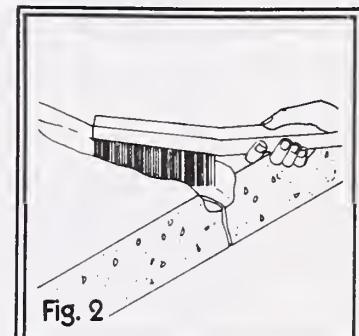

Fig. 2
3. Clean the concrete surface thoroughly with the wire brush (fig. 2).
7. If you suspect that wood has termite damage, probe with a sharp point, such as an icepick or penknife (fig. 2). If the point penetrates the wood to a depth of $\frac{1}{2}$ inch, when you use only hand pressure, it's a good indication of wood damage by termites.